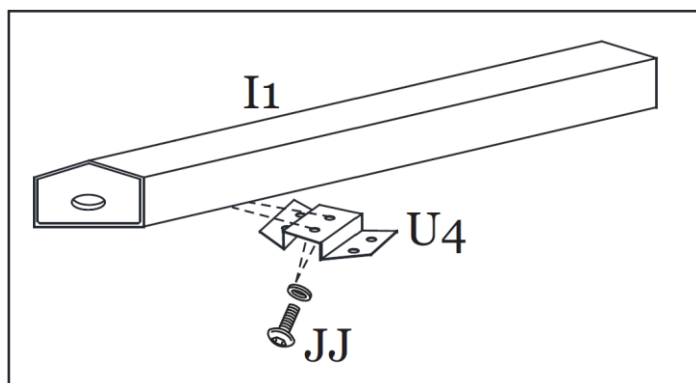

Figure 8-1
Step 8A: Attach the Mosquito Netting Connector (U4) to the Main Roof Corner Support (I1) using Bolts/Washers (JJ). See Figure 8-1. **Tighten all Bolts.**